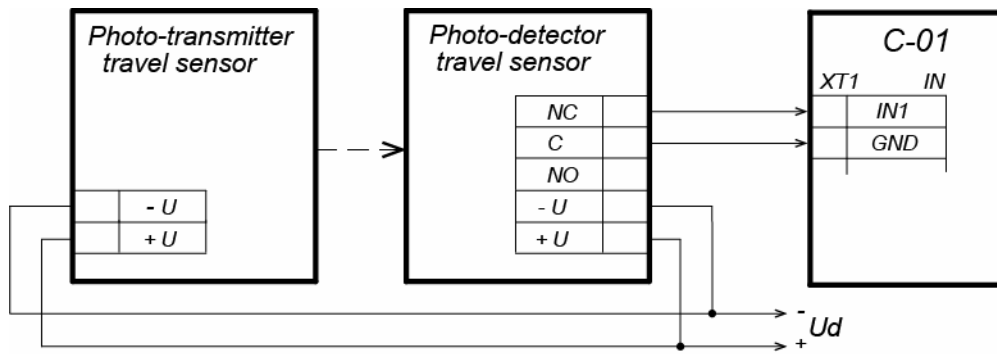

Figure 12. Connection scheme of passage sensors
3. Connect passage sensor to **XT1** connector block of the bottom board of the controller in accordance with the scheme, shown on Figure 12. Use cable №4 for connection (Table 2). If several sensors are connected, their outputs shall be turned on sequentially.